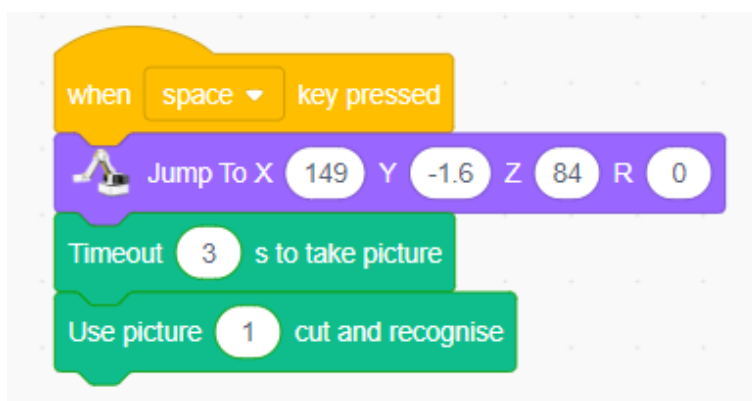

Figure 4.15 Segmenting and recognizing the image
Step 4: Segment and recognize the image. Click the "AI" tab, drag "Use picture (1) cut and recognise" from "image Identification", as shown in Figure 4.15.